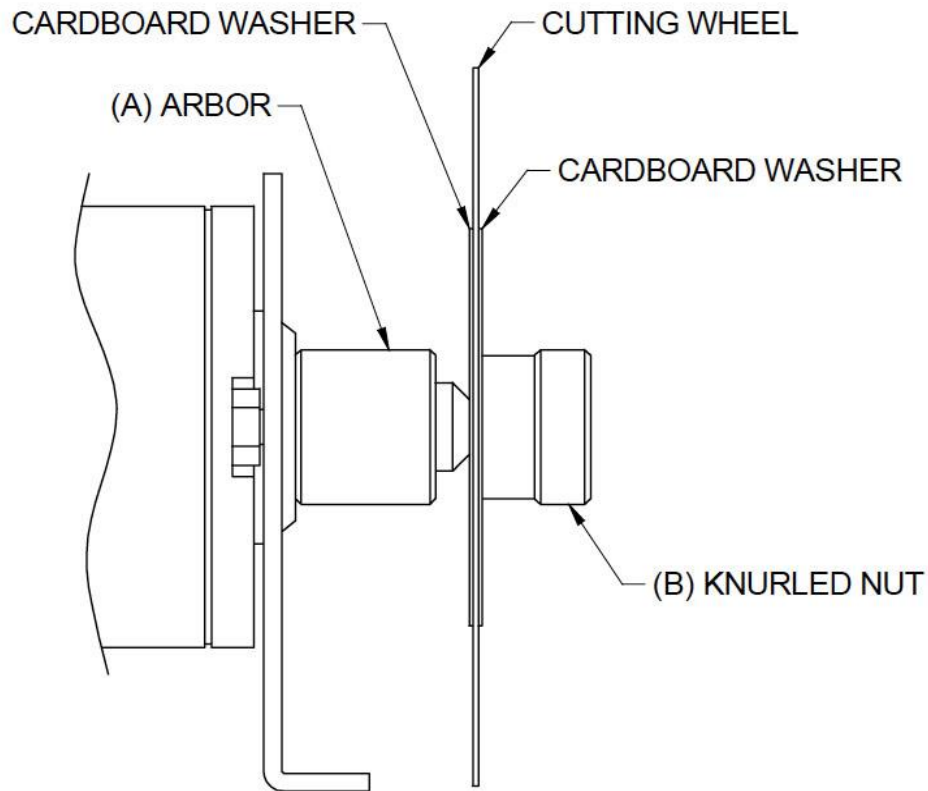

Figure 1. Cutting Wheel and Arbor
2. Hold the arbor (A) on the motor side of the cutting wheel (see Figure 1) and turn the knurled nut (B) counterclockwise to remove.